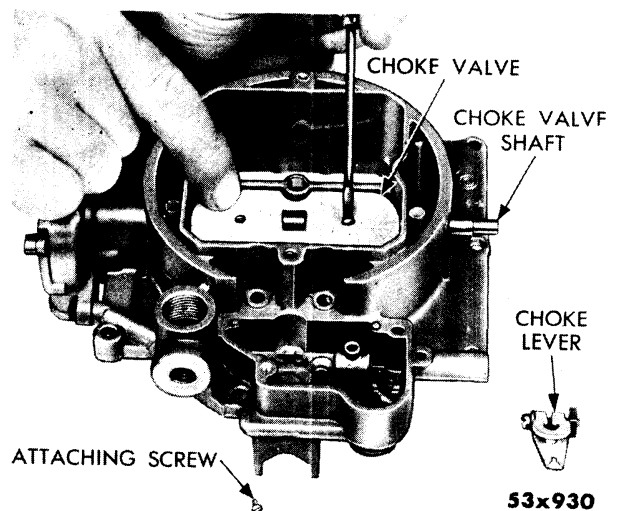

Fig. 29—Removing or Installing Choke Valve Retaining Screws
- (4) Slide the choke valve down into position (numbered side up) and start **NEW** screws.
- (5) Holding the valve in the closed position, tap gently with a screwdriver to center and locate the valve. Tighten screws securely, as shown in Figure 29.
- (6) With the valve in the open position, stake the screws using a pair of pliers. **DO NOT LUBRICATE ANY OF THE CHOKE OPERATING PARTS.**
- (7) Hold the air horn in an upright position and close the choke valve. The valve should open freely of its own weight.